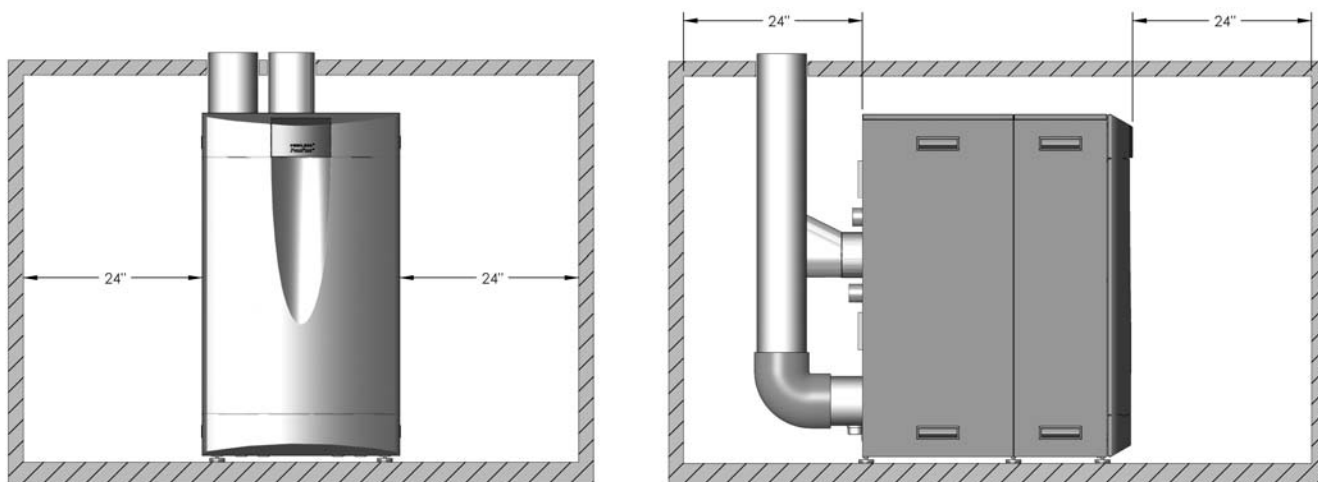

Figure 1.1: Minimum Accessibility Clearances – PF-850, PF-1000, PF-1500
2. Figure 1.1 shows the minimum recommended clearances to allow reasonable access to the boiler for inspection and maintenance. However, local codes or special conditions may require greater clearances.